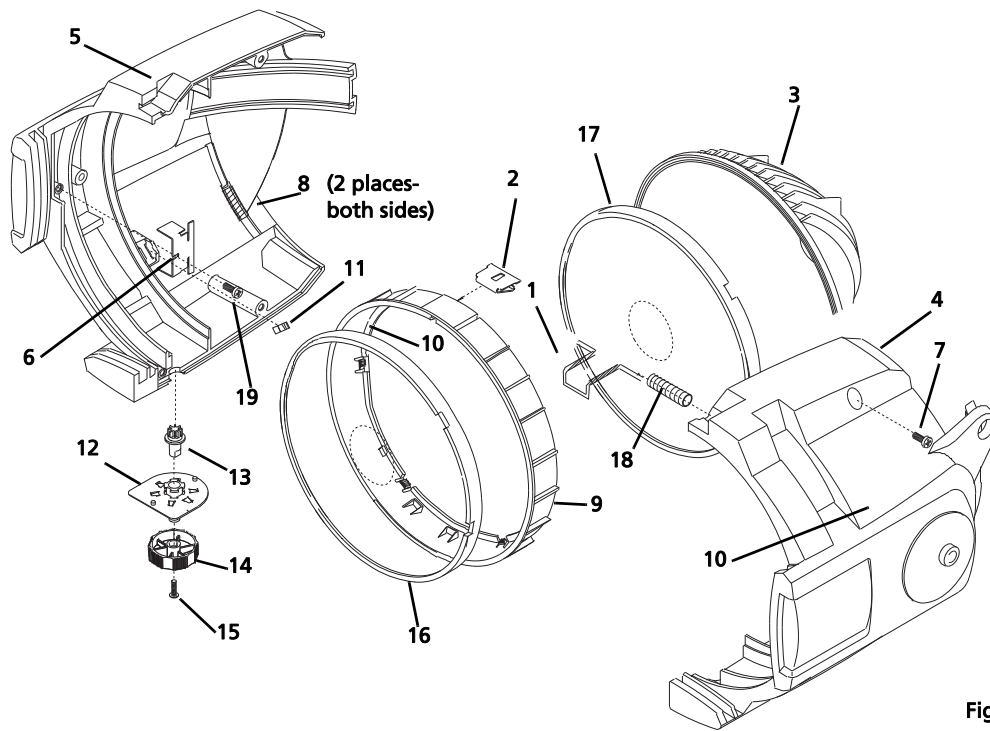

Figure 4
1. Install the reflector mount silicon pads (8) in the left barrel assembly (5). Install the pads in two places on both sides. See Figure 4.
2. With the wave side of the lens facing toward the front of the fixture, install the clear/wave lens (17) into the rear lens track.
4. Place the focus knob assembly into the left barrel (5).
5. Install the lens stop (10) and the rotator spring clip (6) into the lens rotator (9).
6. Install the lens rotator (9) into the left barrel (5).
7. Install the rotator pressure clip (6) into the left barrel with screw (19).
8. Install the gel retainer clip (1) and the spring retainer (18) into the right barrel (4).
9. Attach the right barrel to the left barrel using screws (7) in three places. Hand tighten only (25 inch pounds).
10. Check that the gel clip retainer (1) moves easily into position.
11. Check for smooth rotation of the lens rotator (9).